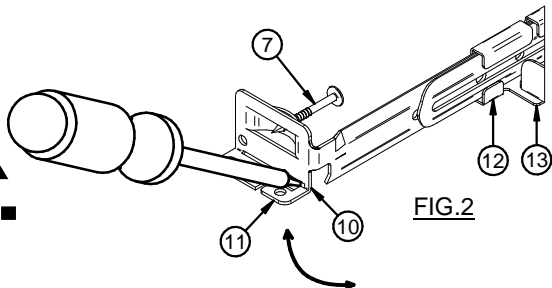

FIG. 2
1. For Wooden Joists: Extend the Bar Hangers (6), use joist alignment tabs (4) to locate fixture and position underneath support joist (8). Drive the 4 Nails (7) into Joists (8) (Fig. 2). Drive additional nails through holes in Bar Hanger for alternate support if required (Fig 2).